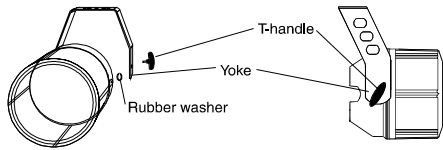

Figure 9. Yoke Attachment
4. Attach the fixture to the yoke using the rubber washers and T-handles as shown in Figure 9.